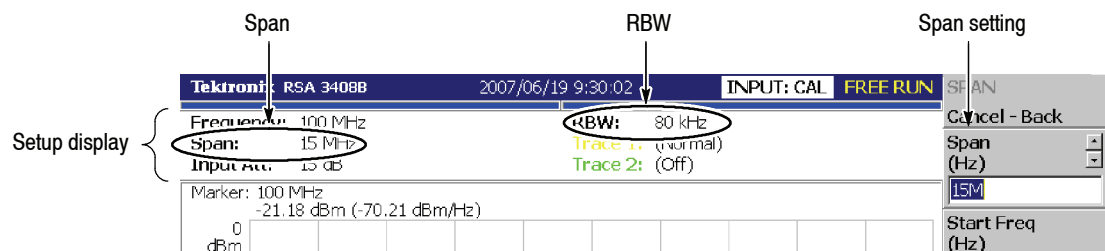

Figure 1-16: Setup display
- b. Confirm that the span is 36 MHz and the RBW is 100 kHz in the setup display on the upper part of the screen (see Figure 1-16).